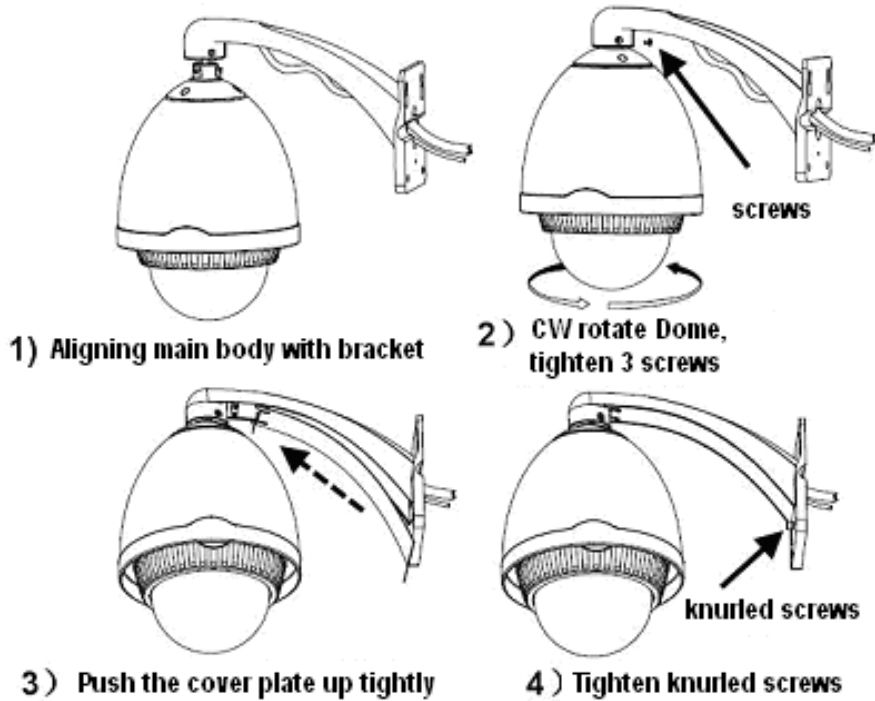

Figure 7
6. Fix the bracket on the main body of dome, rotate the Dome CW (clockwise), and keep the bracket hole and the mounting flange in line. Tighten the three screws.(refer to Figure7 )